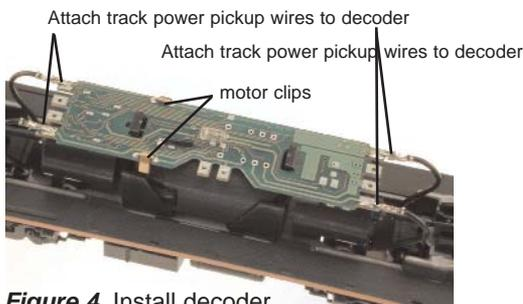

Figure 4. Install decoder
7. Snap the decoder into place over the frame clips. (*Figure 4*)
8. Clip the pins on the corners of the decoder leaving them long enough to attach the clips on the track pickup wires. (*Figure 4*) For better connections, solder the wire clips to the pins.